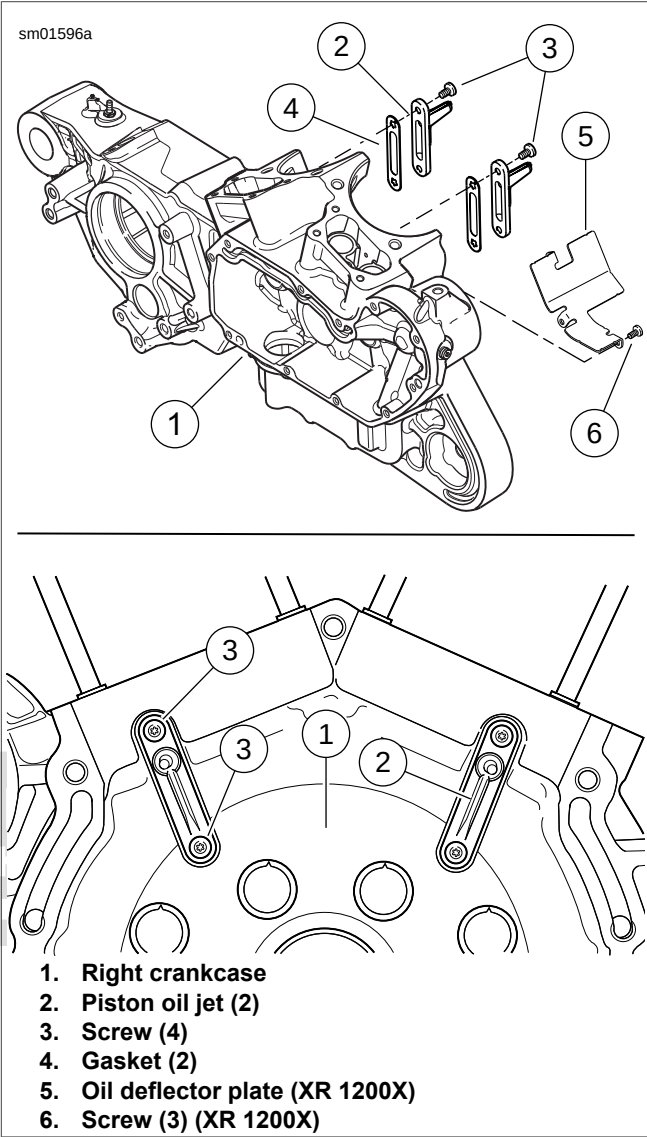

Figure 3-144. Piston Oil Jet Assemblies
- See Figure 3-144. Gasket (4) is part of piston oil jet (2) assembly and is not sold separately.
- See Figure 3-144. With oil jet pointed upward, install **new** piston oil jet assemblies (2) with gaskets (4) in right crankcase.
- Apply LOCTITE 222 LOW STRENGTH THREADLOCKER AND SEALANT (purple) to TORX screws (3) and screws (6).
- XR 1200X**: Install oil deflector plate (5) using three screws (6). Tighten to 38-48 **in-lbs** (4.3-5.4 Nm).